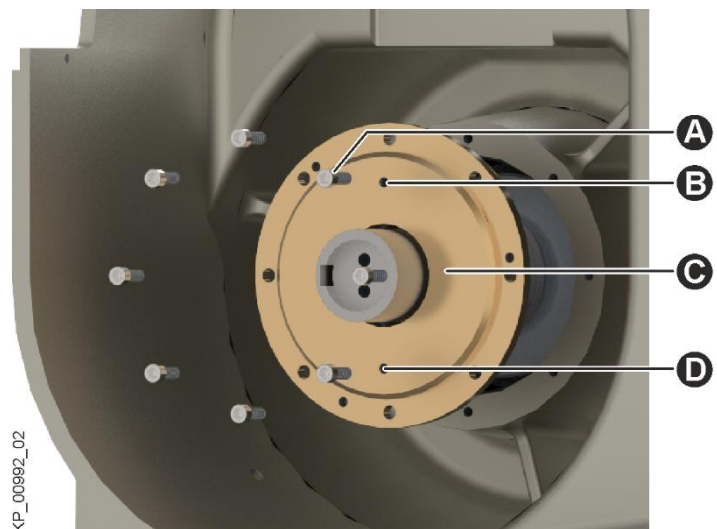

Fig. 67: Removing the bearing flange cover
- Remove the cheese head screws (Fig. 67/A) from the bearing flange cover (Fig. 67/C).
- Remove the bearing flange cover using the lifting thread (Fig. 67/B).